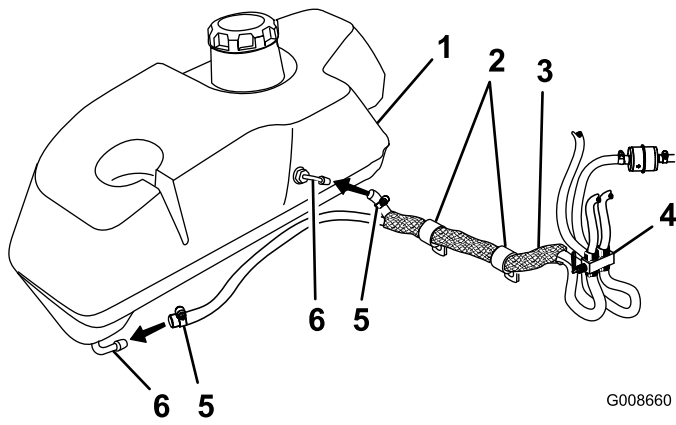

Figure 11
5. Install the fabric sleeve on the right hand tank hoses. See Figure 11 for the correct hoses.
6. Install the hoses with the fabric sleeve into the two R-clamps (Figure 11).
7. Install the longer hose to the front right hand fuel tank connection (Figure 11).
8. Install the short hose to the back right hand fuel tank connection (Figure 11).